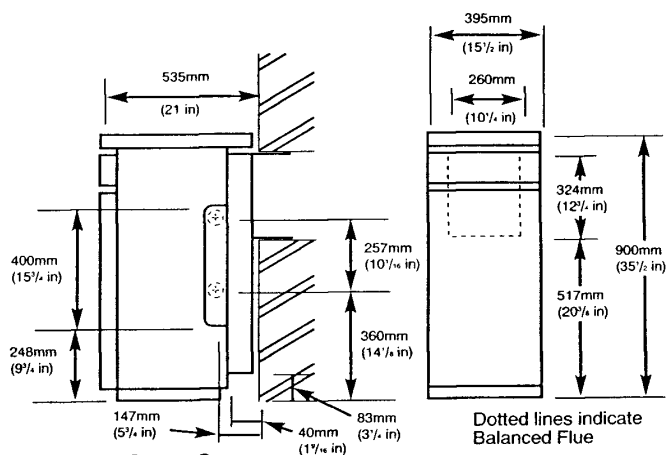

fig 4 - Outer Case
- b) The pipework will run through the cutouts provided in the outer case (Fig. 4).